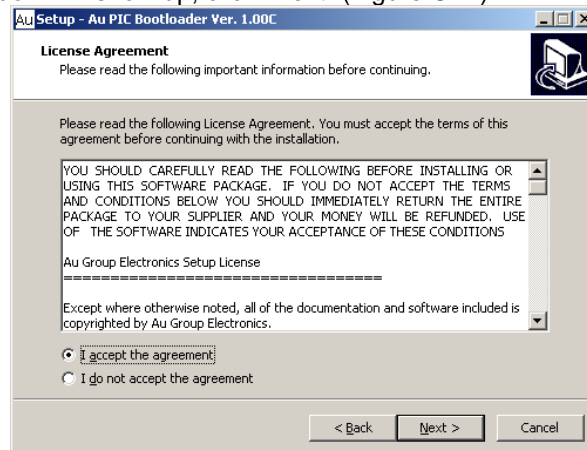

Figure C-3
3. “License Agreement” window will show up. Read the license agreement and select “I accept the agreement”, then click “Next” to continue (Figure C-3).